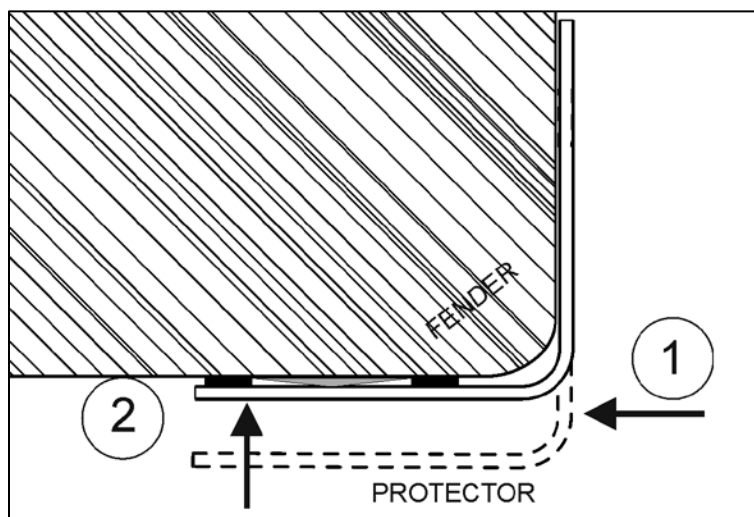

FIGURE 5 INSTALLATION SEQUENCE
10. Within 10 minutes of glue application, place protector against inner face of fender (1, Figure 5 ). Then, push against outer face (2, Figure 5 ).